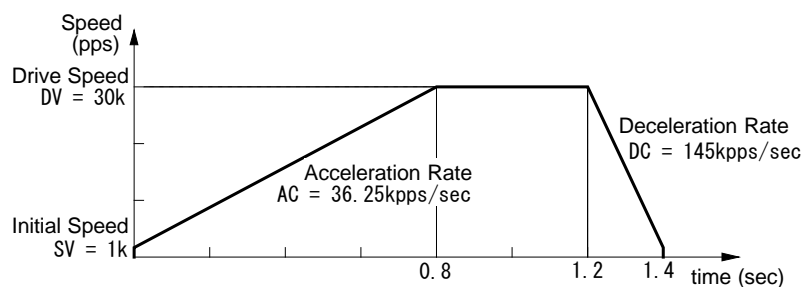
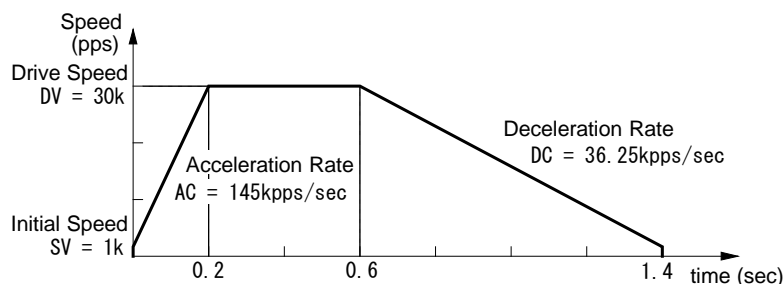

Fig. 2.2-6 Non-Symmetrical Linear Acceleration Driving (acceleration < deceleration)
Fig. 2.2-7 Non-Symmetrical Linear Acceleration Driving (acceleration > deceleration)
This IC can perform automatic deceleration in non-symmetrical linear acceleration/deceleration fixed pulse driving where acceleration and deceleration are different. It is not necessary to set a manual deceleration point by calculation in advance. Fig. 2.2-6 shows the case where the deceleration is greater than the acceleration and Fig. 2.2-7 shows the case where the acceleration is greater than the deceleration. In such non-symmetrical linear acceleration, the automatic deceleration start point is calculated by the IC based on the number of output pulses in fixed pulse driving and each rate parameter.
- In non-symmetry linear automatic acceleration/deceleration driving, when acceleration > deceleration (Fig. 2.2-7), the following condition is applied to the ratio of acceleration and deceleration. In this case, set drive speed 4Mpps or less.
- In non-symmetry linear automatic acceleration/deceleration driving, if acceleration > deceleration (Fig. 2.2-7), the greater the ratio of acceleration AC to deceleration DC becomes, the greater the number of creep pulses becomes (about maximum of 10 pulses when AC/DC=10 times). When creep pulses cause a problem, solve the problem by increasing the initial speed or setting a minus value to the acceleration counter offset.
As shown in Fig. 2.2-6, parameter setting of relative position driving in non-symmetrical linear automatic acceleration/deceleration (acceleration < deceleration) is shown below.